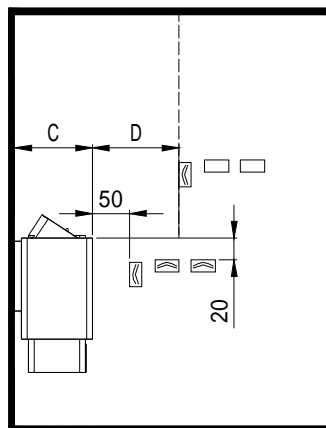

Fig 7D
- △ It is very hot when the sauna heater working .in order not to burn user, there should be a enclosure for sauna heater, the enclosure can be made in different type ,but some size must comply fig 7D ,the size parameter can refer chart 8 and chart 7;